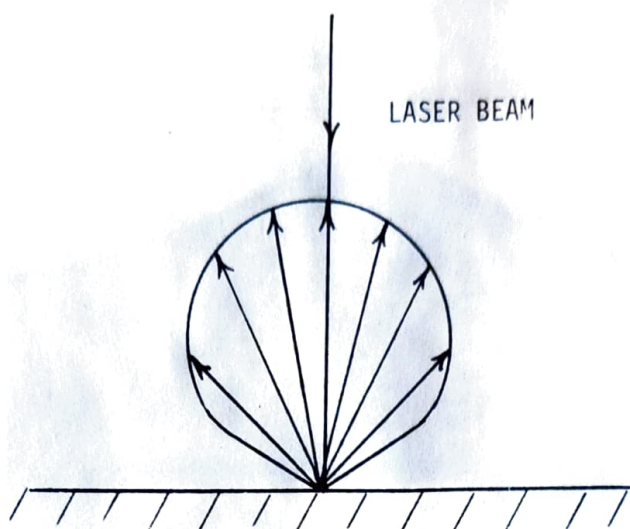

Figure 7. Diffuse Reflector.
b. Targets such as flat concrete or metal surfaces are known as diffuse reflectors. The primary difference between specular and diffuse reflection is that the specularly reflected energy is highly directional and can be "seen" only in the path of the beam, while the diffusely reflected energy is scattered and (though of lower intensity) can be seen from essentially anywhere in front of the reflecting surface. Intensity of diffusely reflected energy is maximum in the direction perpendicular to the surface but is scattered in all directions. An ideal diffuse target follows a lambertian distribution of reflected energy as show in Figure 7. This energy theoretically drops to zero at a  $90^\circ$  angle to the laser beam, and is tactically usable up to  $75$  to  $80^\circ$  from the beam. Targets such as runways are very close to this distribution and little energy will be reflected at  $90^\circ$  to the beam.